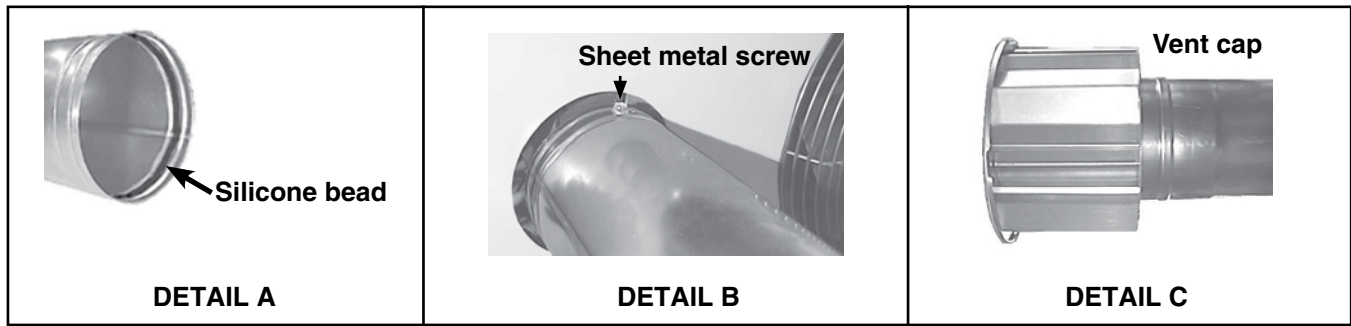

Figure B1. Reducer and Vent Cap
- a. Place continual bead (see Figure B1, DETAIL A) of high-temperature silicone around inside of pipe on end of adapter or reducer that attaches to venter collar (end of adapter with double emboss without locking ring hole).
- c. Drill 1/8-inch hole on top of overlap and secure joint using sheet metal screw (see Figure B1, DETAIL B).
3. Attach vent cap (see Figure B1, DETAIL C):